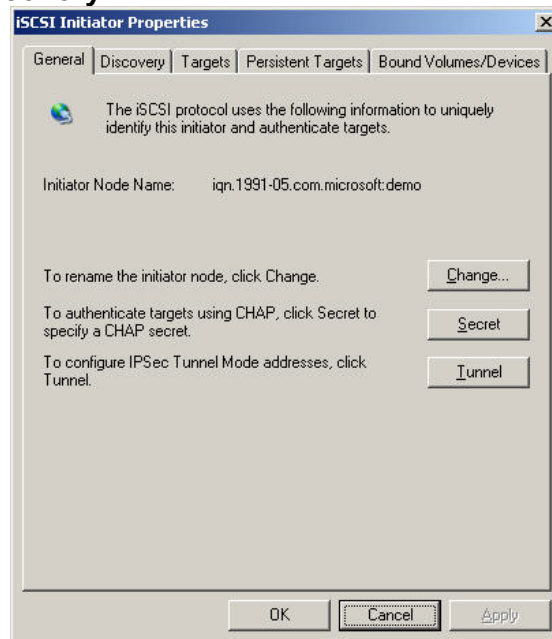

Figure D.1
1. Run Microsoft iSCSI Initiator version 2.03. Please see Figure D.1.